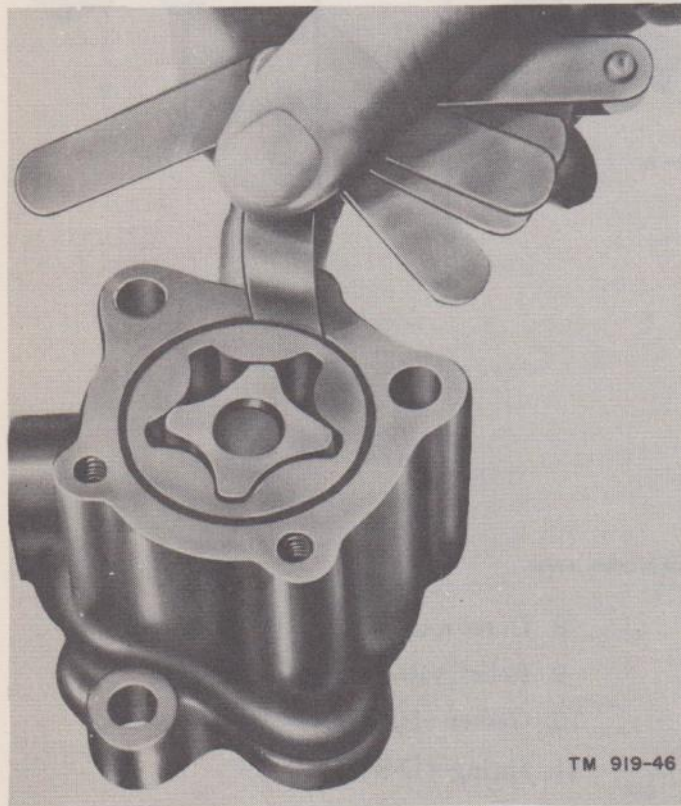

Figure 46. Checking clearance between outer rotor and oil pump body.
(4) Measure the clearance between the outer rotor and the pump body as shown in figure 46. If the clearance exceeds .012 inch, the pump body is faulty and should be replaced.